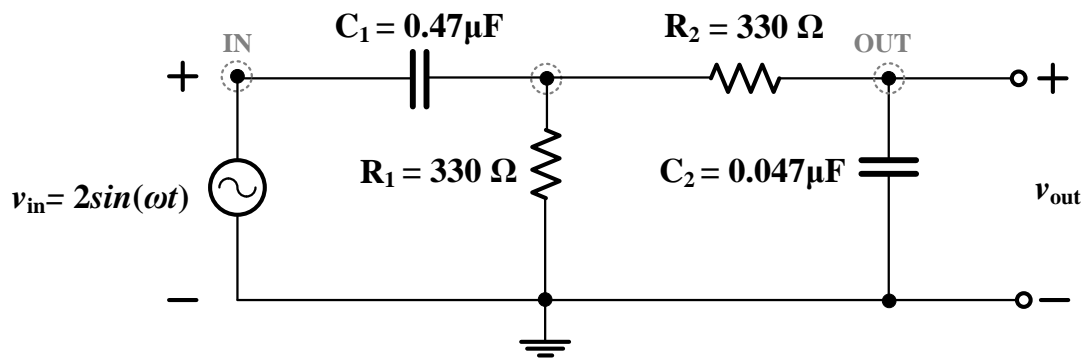

Fig. 11. The passive bandpass Filter.
1. Measure the actual values of R_1 , R_2 , C_1 and C_2 of Fig. 11, and record these values in Table D.1.
2. Assemble the passive bandpass filter in Figure 11.